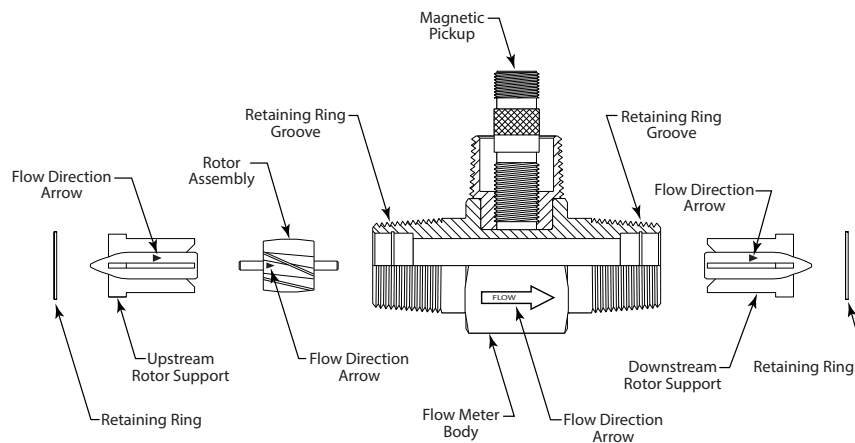
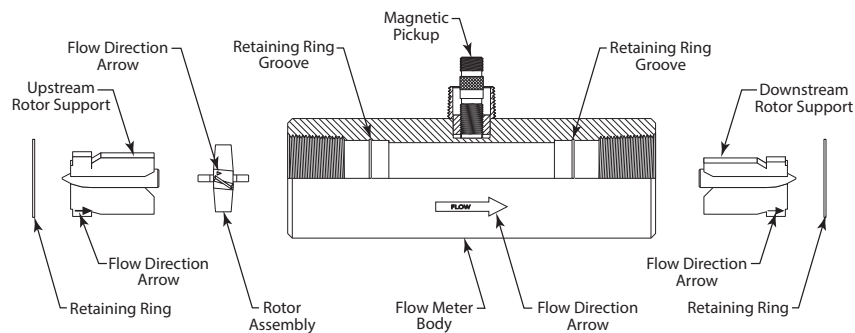
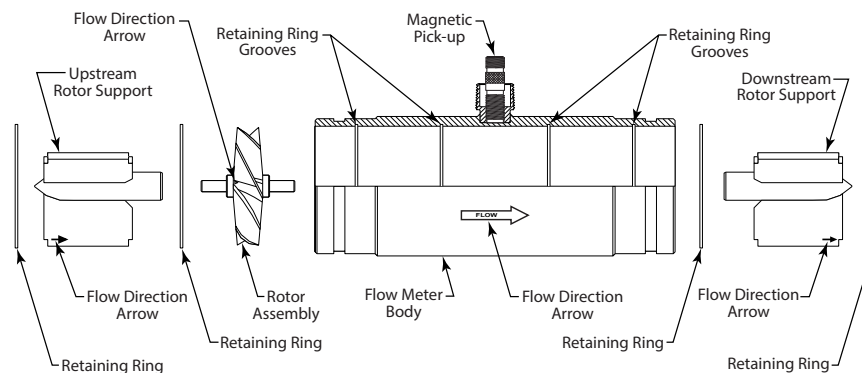

Figure 7: Component positions for B110-375...B111-115 and B111-121
Figure 8: Component positions for B111-120 and B111-130
Figure 9: Component positions for B111-140 and B111-200
1. Refer to Figure 7, Figure 8 and Figure 9 for relative positions of repair kit components.
**NOTE:** 4 in. and larger meters have two retaining rings (one on either side of the rotor) that require removal before the rotor can be removed (see Figure 9).
Before reassembly, note that an arrow is cast or engraved on each component. The arrow indicates the primary flow direction. When reassembled, the arrowheads must point in the direction of the fluid flow. The arrows must also be oriented in the up position on both rotor supports. The magnetic pickup side of the body signifies the up position. Performance of repair kit calibration is in the up position. Reinstallation of the repair kit in the up position provides continuation of accurate measurements. Figure 7, Figure 8, and Figure 9 show the proper alignment and orientation of the repair kits.
**NOTE:** 4 in. and larger meters have a retaining ring at both ends of the rotor (see Figure 9).